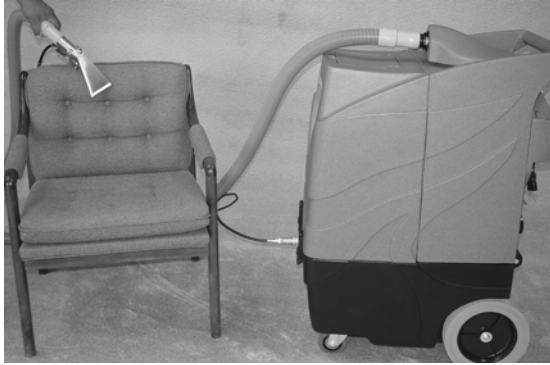

Fig. 8
2. Operate accessory tool as normal (Figure 8).